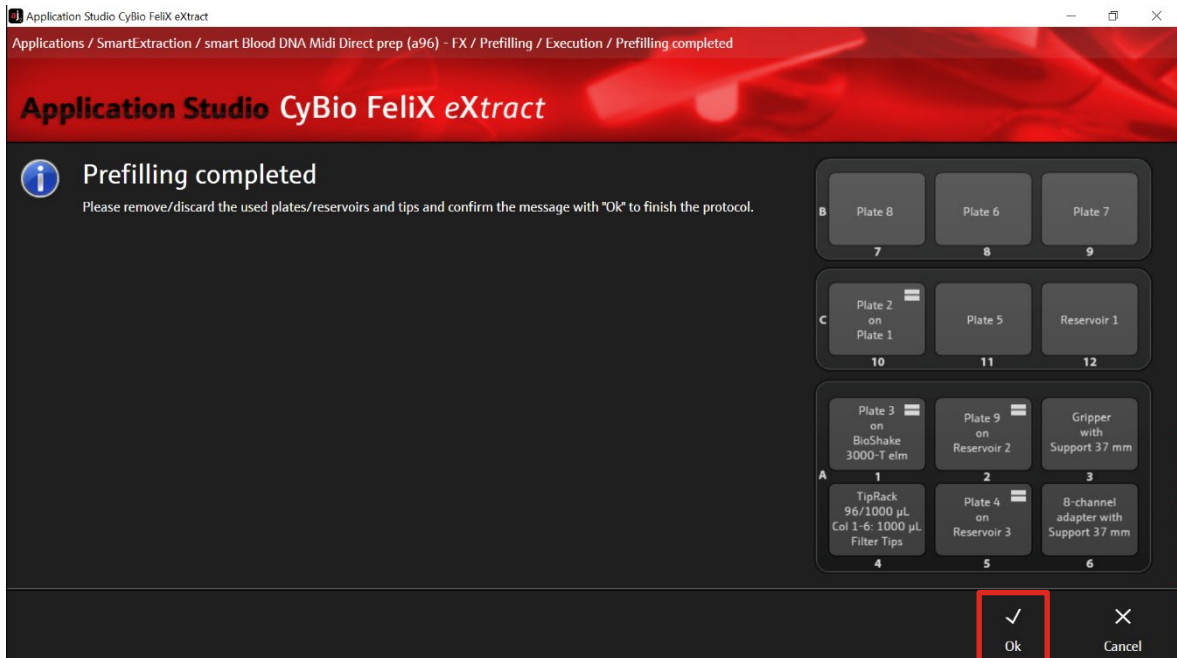

Figure 28: Prefilling process is completed.
22. The chosen protocol is performed by the device. After the protocol is finished, the message "Prefilling completed" is shown. Confirm the message with "Ok" (→ see Figure 28).